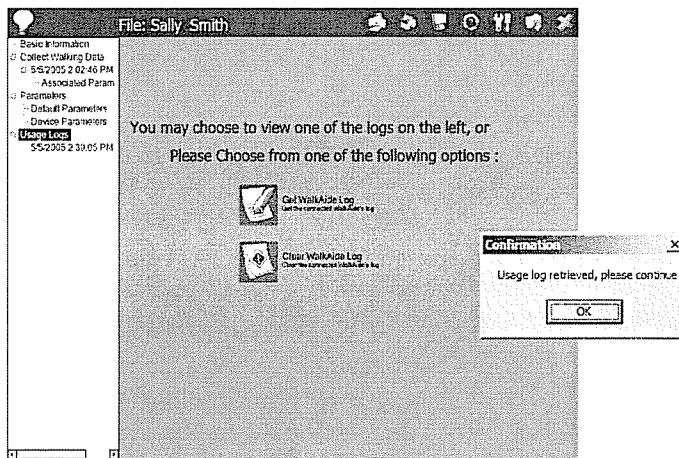

Figure 31 – Get WalkAide Log.
1. Click on '**Usage Logs**' listed on the left side of the screen (Figure 31). Click on the '**Get WalkAide Log**' icon to retrieve the information and then click 'OK' once the information has been retrieved.